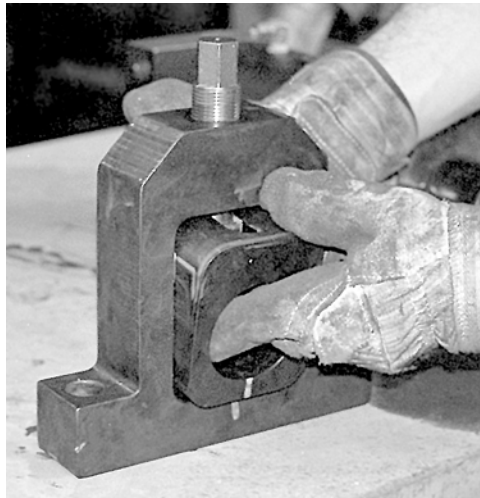

Figure 5-15. Removal of Guide Block from Idler Bracket
13. Remove the guide block from the idler bracket and remove adjustment screw (see Figure 5-15).
2. Insert the guide block into the idler bracket (see Figure 5-15).